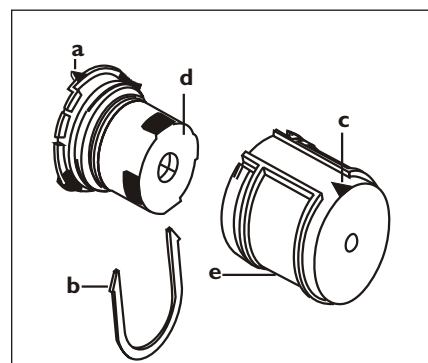

Fig 22
2. Remove the red U-clip (b) from the temperature adjustment carrier. (Fig22)